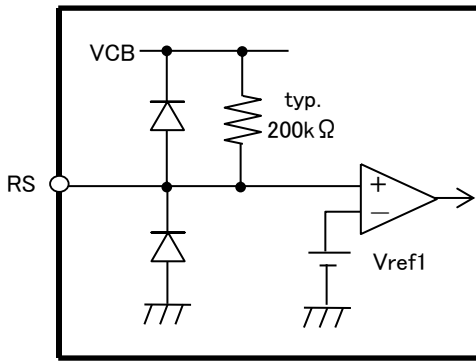

FIGURE 2.2.1 Equivalent Circuit Around RS Pin
- Note 2: Internal pull-up resistor is typically 200kΩ. The equivalent circuit is shown in FIGURE 2.2.1.